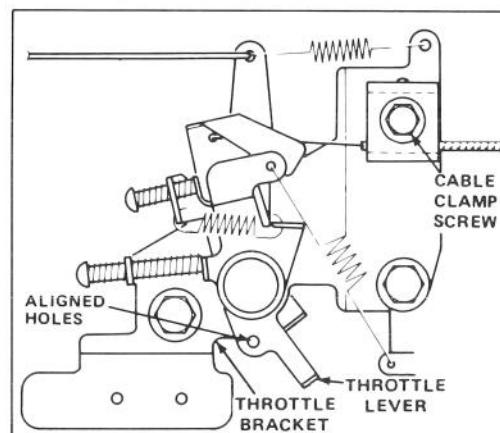

Figure 17
- Loosen cable clamp screw until throttle cable slides (Fig. 17). Align holes in throttle lever and throttle bracket. Pull throttle cable slightly to remove any slack and tighten cable clamp screw to lock adjustment in place.